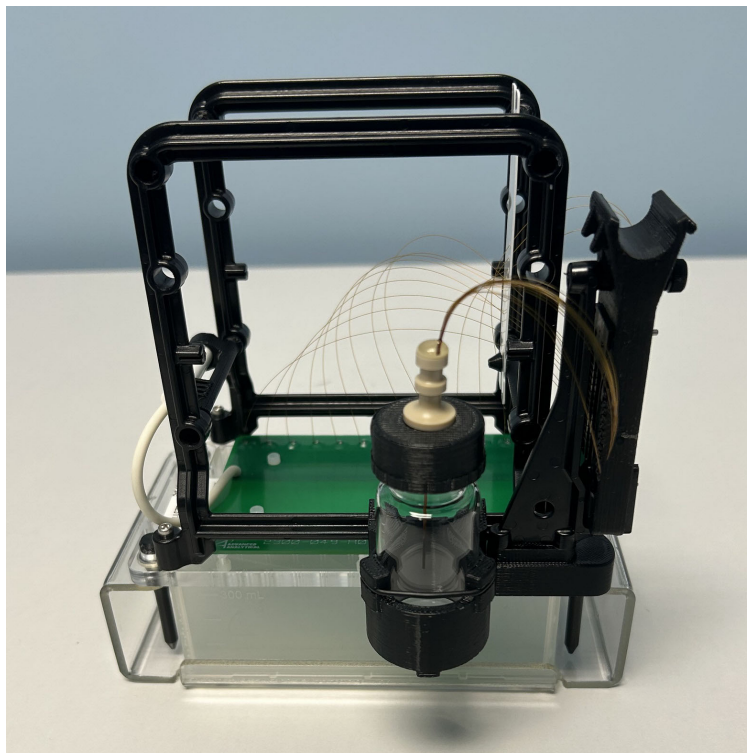

Figure 112 Array docking station with array installed
To see a full image of the array with the array spindle storage device installed, refer to **Figure 112**.
- 8 Remove the capillary array outlet spindle from the black storage plug and place it into the array spindle storage device as shown in **Figure 112**.